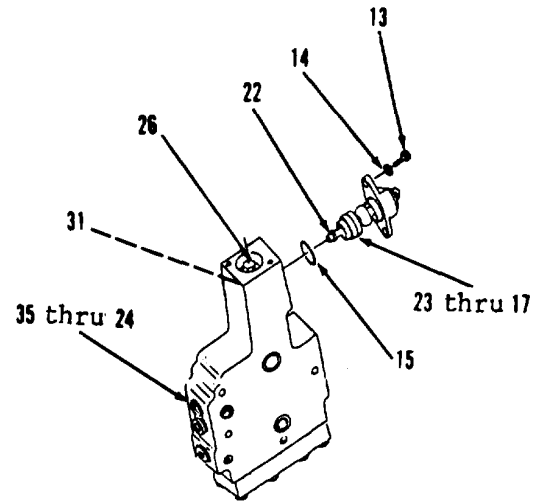

Figure 10-99.
26. Install new preformed packing (15, Figure 10-99).
27. Position items 23 thru 17 as an assembly on items 35 thru 24 as an assembly. Insert end of lever (22) in hole at end of stem (31).
28. Install two washers (14) and bolts (13).